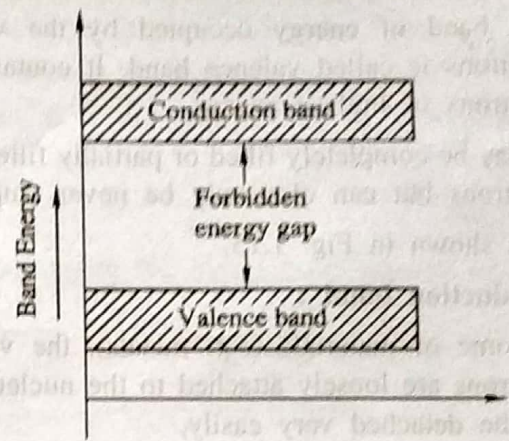

FIG. 1.14 : ENERGY BAND IN SOLIDS
- There are a number of energy bands in solids, the following are of particular important energy band in solids (see Fig. 1.14).